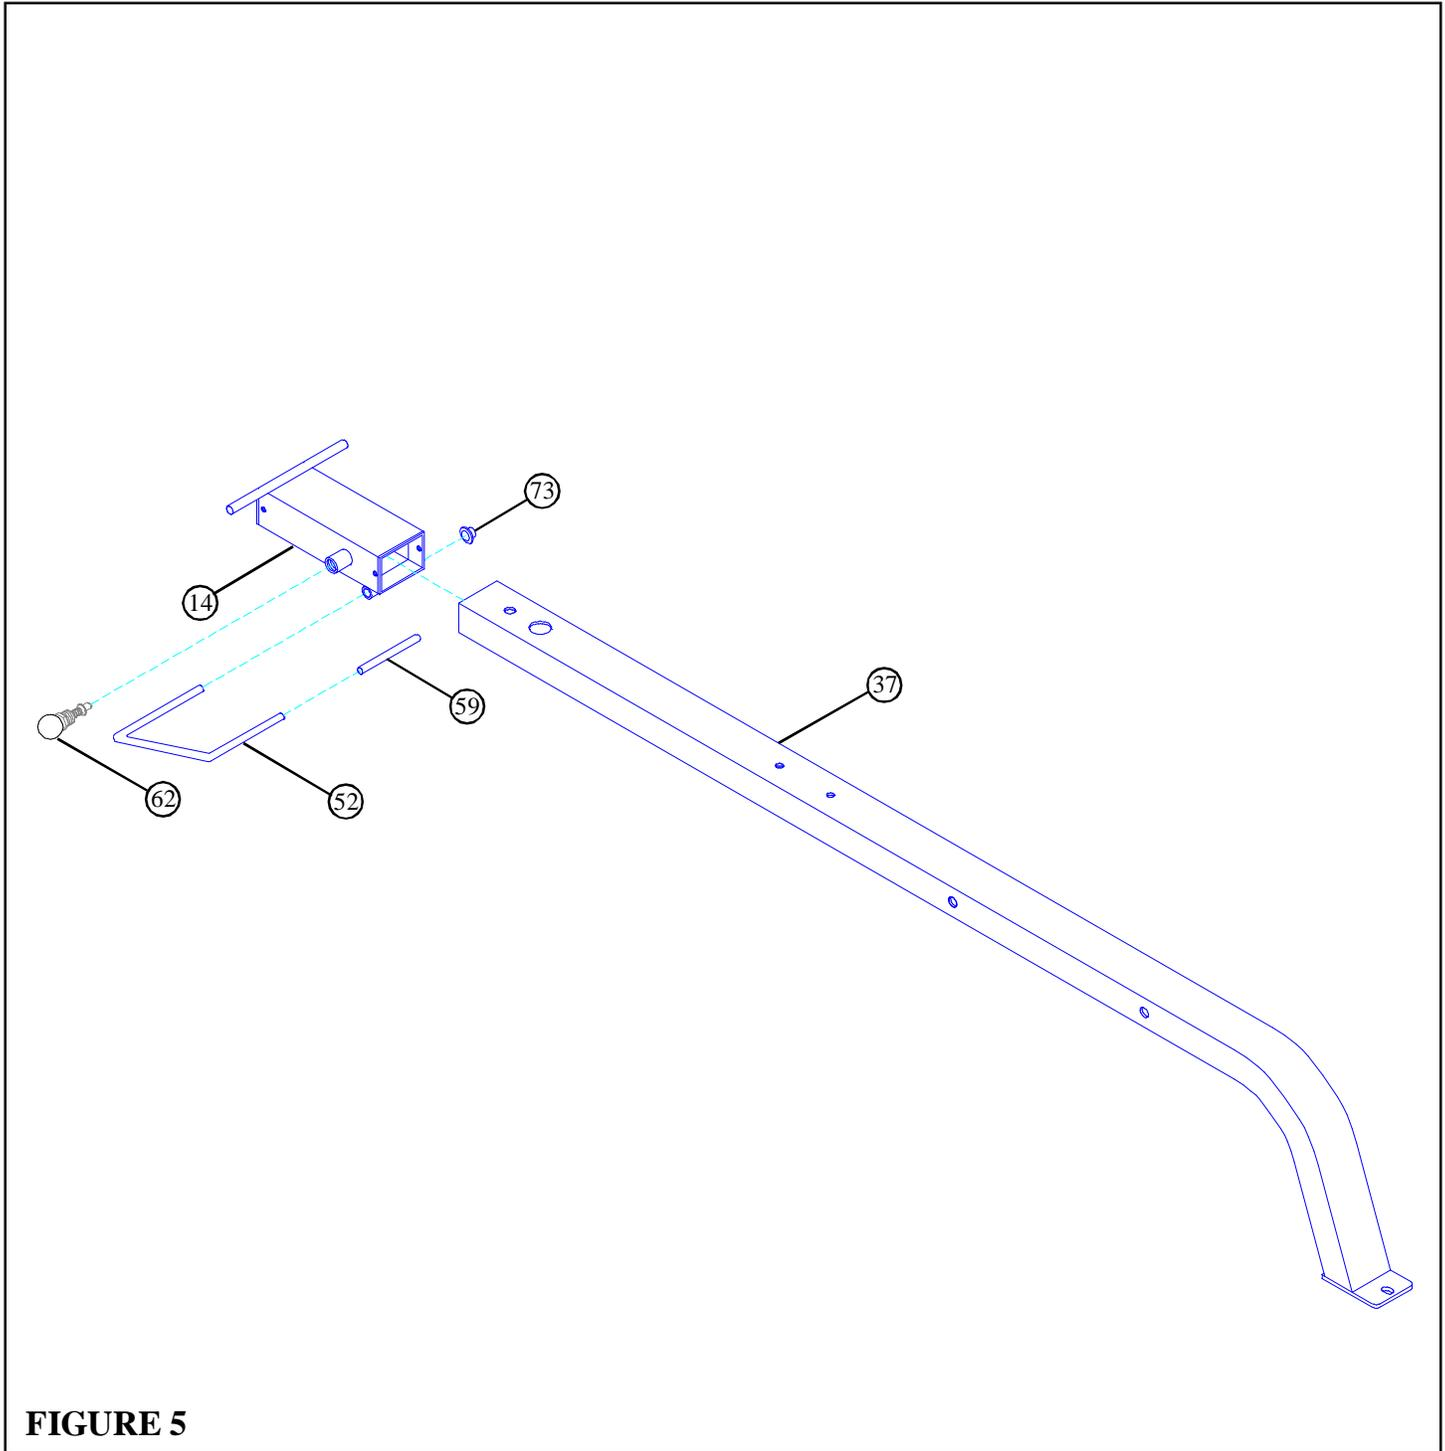

FIGURE 5
- **SECURELY** assemble one 3/8 X 2-3/4" SPRING PIN (62) to the WOLFF SLEEVE (14) as shown in FIGURE 5.
- Assemble one U-PIN (52) to the WOLFF SLEEVE (14) using one 1/2" PAL NUT (73).
- Slide one 4" VINYL SLEEVE (59) onto the U-PIN (52) as shown in FIGURE 5.
- **CAREFULLY** slide the WOLFF SLEEVE (14) onto the PRESS FRAME (37) until the SPRING PIN engages in one of the holes.